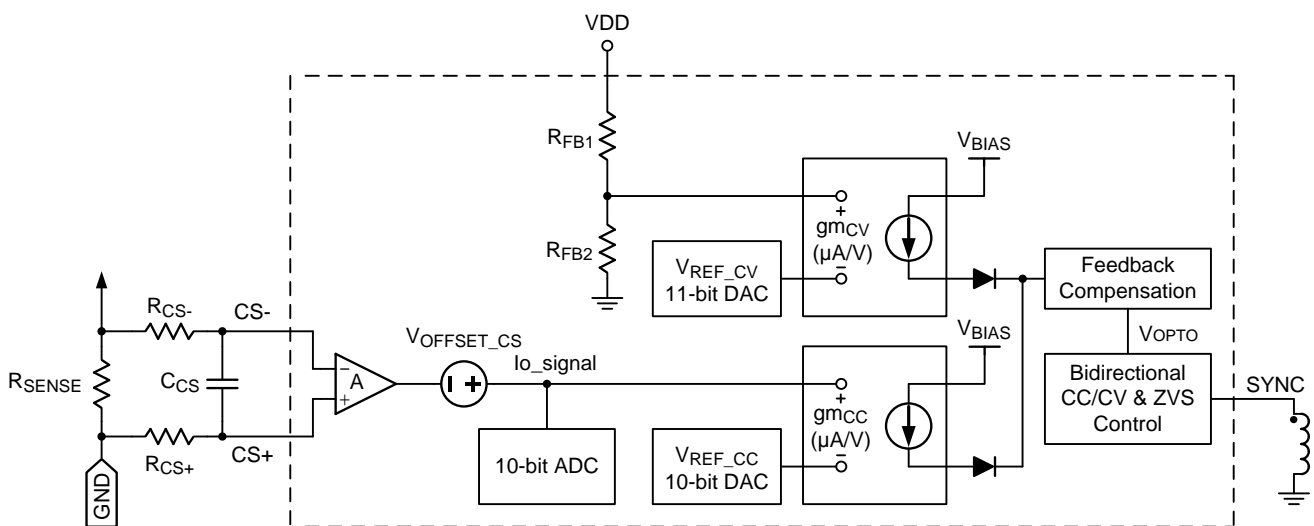

Figure 6. CV Loop and Current-Sense Amplifier
As shown in Figure 6, the RT7208EB incorporates 2 error amplifiers (EA) to regulate output voltage and current, respectively. The output voltage is determined as :